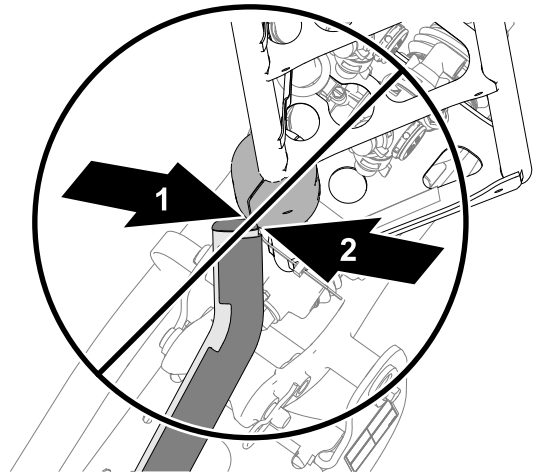
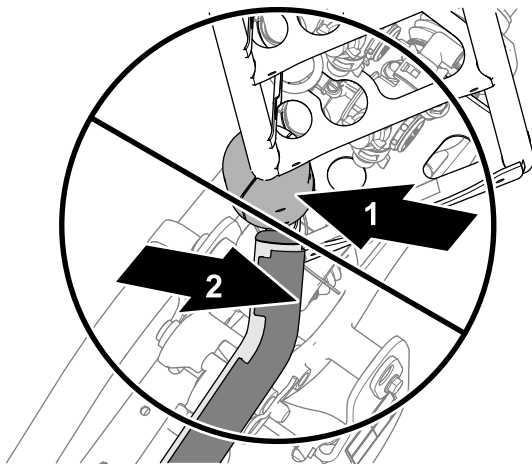
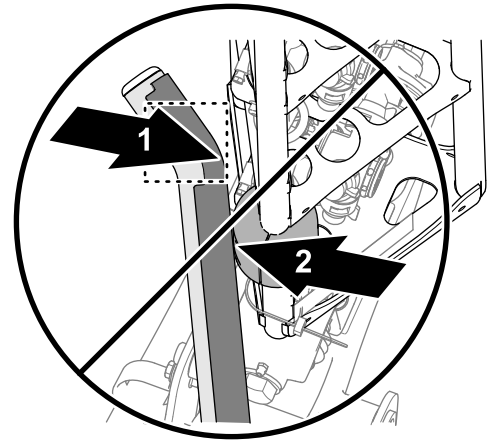

Figure 7
Figure 6
Figure 8
5. If either upper cradle tube is misaligned with the slide block as shown in Figure 6, Figure 7, or Figure 8, adjust the cradle position; refer to Aligning the Cradles to the Outer Booms (page 80).